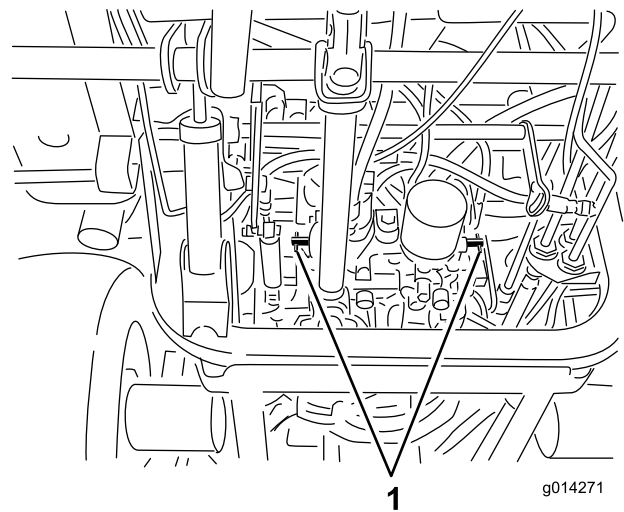

Figure 25
4. Rotate each by-pass valve counterclockwise 1 turn (Figure 25).
Rotate each by-pass valve clockwise 1 turn and hand tighten them (torque of approximately 8 N-m (71 in-lb) (Figure 25).